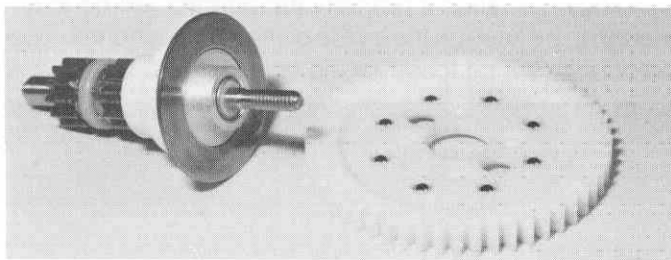

Fig. 74
□ **Fig. 74** Take the dif shaft assembly and spur gear.